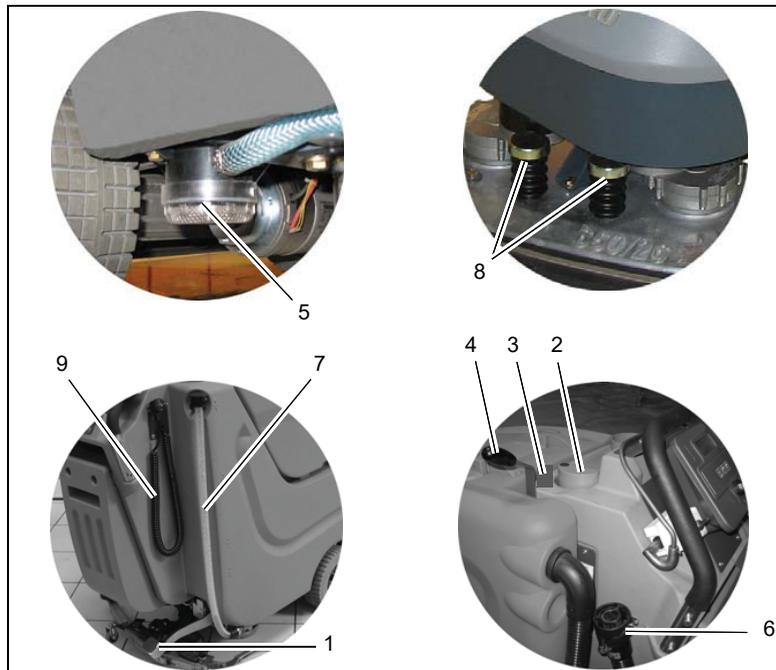

Fig.5
2. Use hand lever (Fig. 5/3) to lower squeegee. Vacuum motor turns on automatically.
5. Use pedal (Fig. 5/9) to lower brush head.
6. Use forward/reverse lever (Fig. 5/1) to adjust speed and direction. Increase the scrub brush pressure if required with pedal (Fig. 5/10) .
**Brush deck pedal (Fig. 5/1)**
**Opening of solution tank (Fig.5/2)**
**Solution control (Fig. 5/3)**
**Squeegee Lever (Fig. 5/4)**
**Solution tank filter (Fig. 5/5)**
**Recovery tank drain hose (Fig. 5/6)**
**Solution tank drain hose (Fig.5/7)**
**Brush ejector (Fig. 5/8)**
**Power cord for charger (Fig. 5/9)**